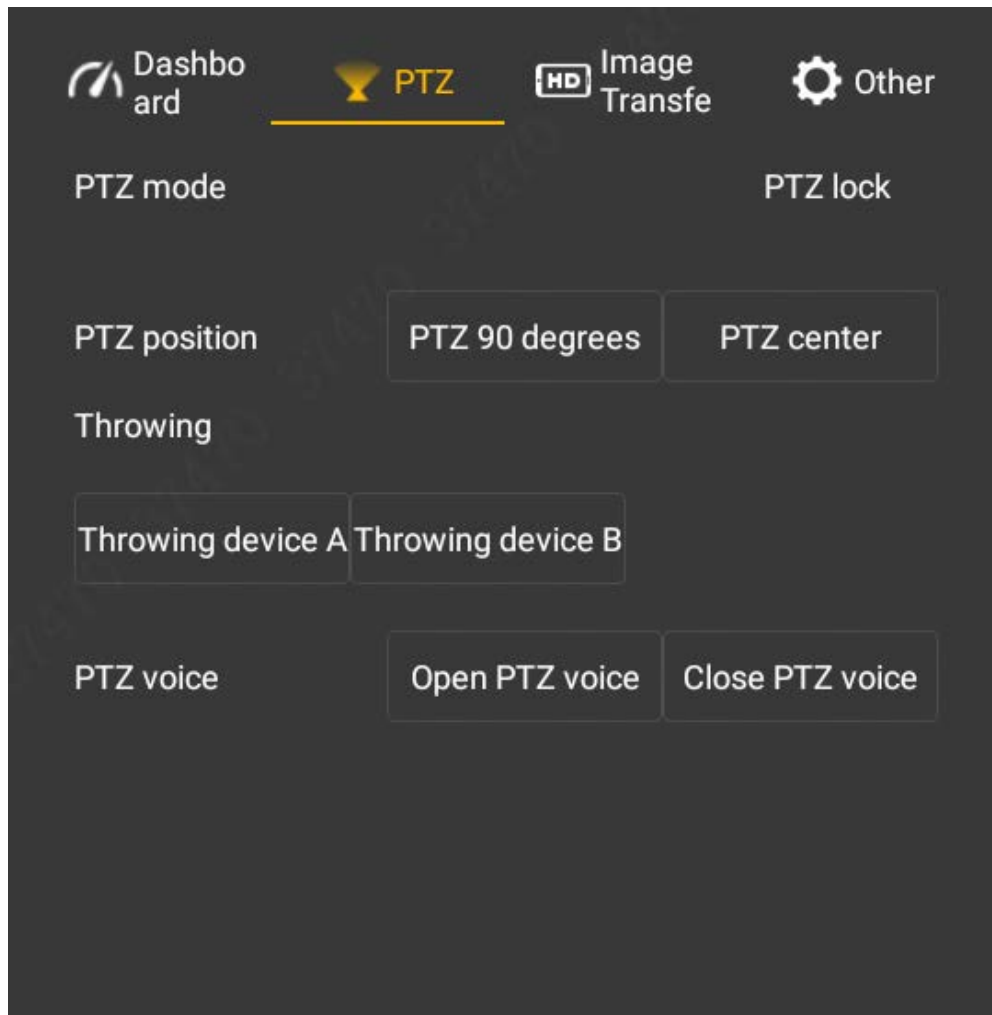

Figure 3-20
Step 1 Click "PTZ", and the system enters "PTZ" interface, as shown in Figure 3-20.